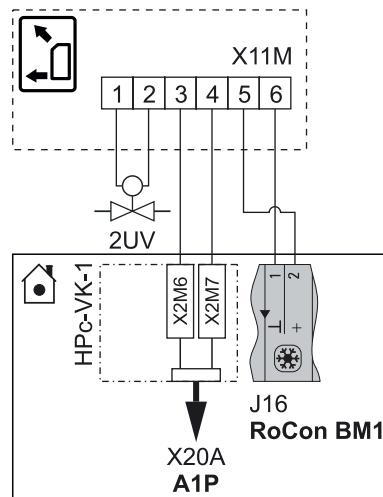

Fig. 4-41 Connecting the ROTEX HP convector to the ROTEX HPSU compact
- Electrical connection of the ROTEX HP convector with the following accessories in accordance with fig. 4-41 as a change-over contact (heating/cooling) on the basic module.